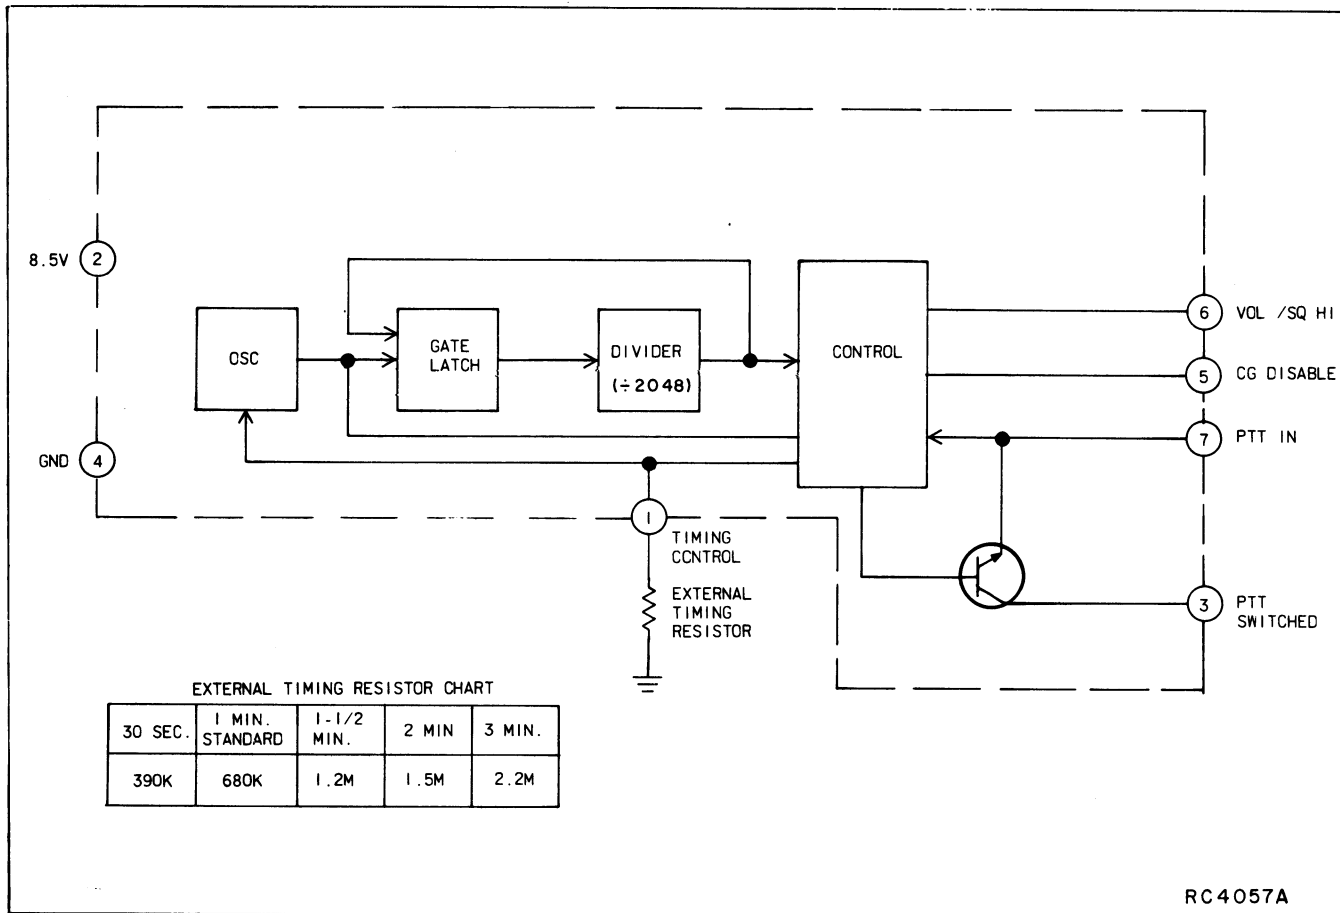

Figure 4 - Simplified CCT Diagram
The CCT consists of an integrated circuit (IC) and an external timing resistor mounted on the Interconnect/Multi-frequency board. The timing cycle can be set for a duration of 30 seconds to 3 minutes (in five steps) by changing the value of the timing resistor. The CCT is normally shipped from the factory with a one minute timing cycle. A simplified diagram of the CCT with a timing resistor chart is shown in Figure 4.